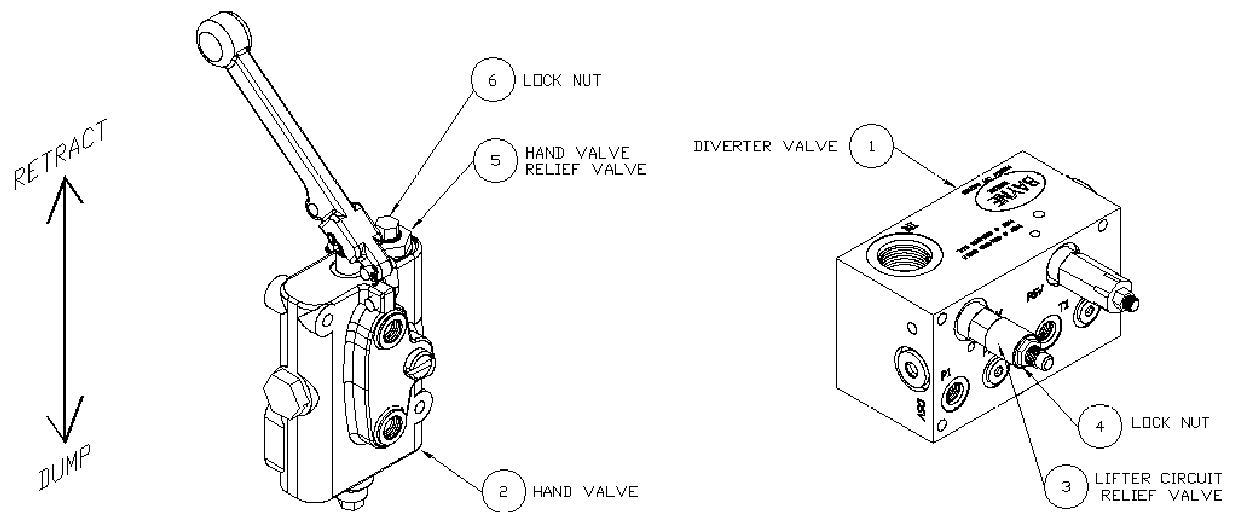
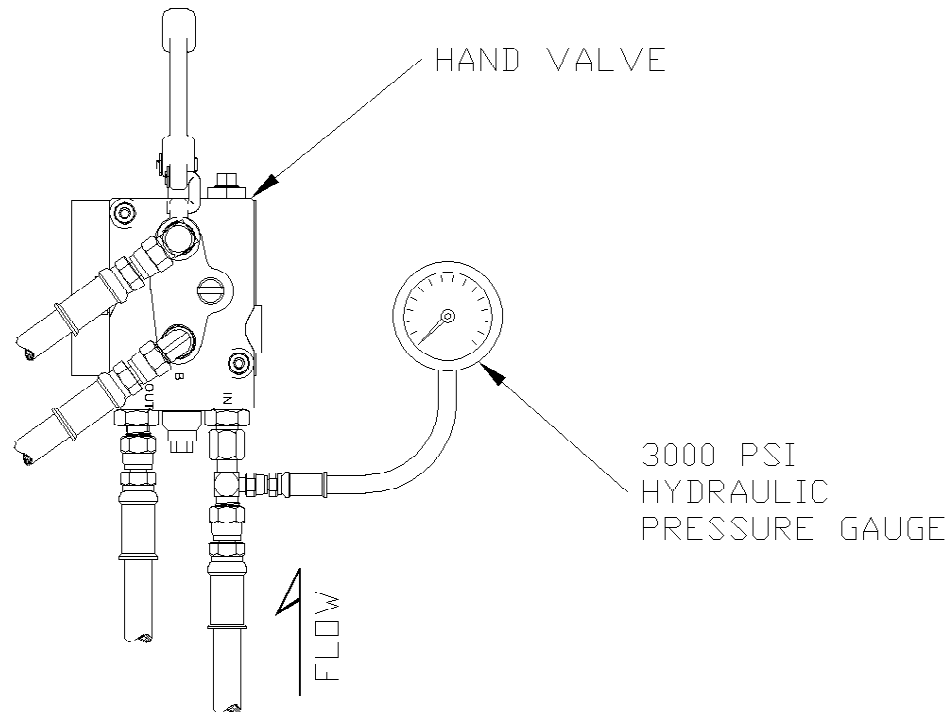

figure I-4
figure I-5
The diverter valve (1) (figure I-4) supplies the cart lifter hydraulic system with approximately 2 GPM of oil flow. This diverter valve is equipped with a lifter circuit relief valve (3) set at 2300 psi, to prevent the diverter valve from shutting down if a blockage occurs in the lifter circuit. There is also a relief valve (5) set at 1800 psi in the hand valve (2) to protect the lifter from excessive pressure. These relief valves are preset from the factory to operate properly on most trucks with a system pressure between 2300 and 2500 psi without any adjustment. However, if any adjustment is necessary, follow these instructions.
2. Loosen the lock nut(s) (6) (*figure I-4*) from the hand valve relief valve(s) (5) and turn the adjustment screw(s) clockwise until it bottoms out.
3. Loosen the lock nut (4) (*figure I-4*) on the lifter circuit relief valve (3) and turn the adjustment screw clockwise until it bottoms out.
5. Operate the handle on the hand valve (2) (*figure I-4*) back and forth a few times to bleed all air from the lifter hydraulic system.
7. Install a 3000 psi hydraulic pressure gauge with the necessary adapter in the hydraulic line connected to the "IN" port of the hand valve as shown in figure I-5. *If installing dual lifters, install the hydraulic gauge at either one of the hand valves.*
- a) Have an assistant hold the handle on the hand valve (2) (*figure I-4*) (*with pressure gauge installed at the "IN" port*) in the "retract" position to show pressure on the gauge.
- b) Turn the pressure relief adjusting screw on the lifter circuit relief valve (3) counter-clockwise until the pressure reading on the gauge is either 100 psi less than the truck system pressure or 2300 psi, which ever is the lowest.
- a) Hold the handle on the hand valve (2) (*figure I-4*) (*with pressure gauge installed at the “IN” port*) in the “retract” position to show pressure on the gauge.
- b) Turn the pressure relief adjusting screw on the hand valve relief valve (5) counter-clockwise until the pressure reading on the gauge is either 200 psi less than truck system pressure or 1800 psi, which ever is the lowest.
- f) *For dual lifters, install the hydraulic pressure gauge in the “IN” port of the other hand valve as shown in figure I-5, start the truck’s engine, engage the hydraulic system, and repeat step 10.*
11. Reinstall the cap nut(s) (8) (*figure I-4*) on the hand valve relief valve(s) (5) to secure the correct pressure setting(s).
12. Tighten the lock nut (4) (*figure I-4*) on the lifter circuit relief valve (3) to secure the correct pressure setting.